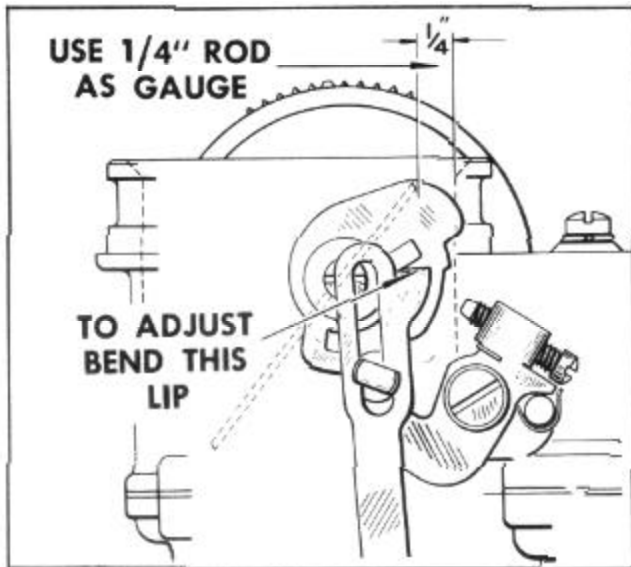

FIGURE 37
1. Open throttle wide open and check clearance between upper edge of choke valve and air horn. Clearance should be 1/4", Figure 37.